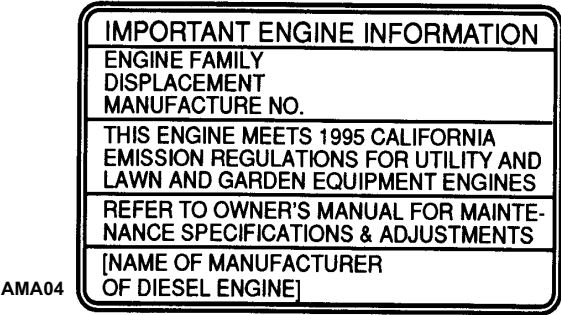

Figure 8: Emission Control Label
- a. Emission control label: a new label, shown in Figure 8, contains important engine information.